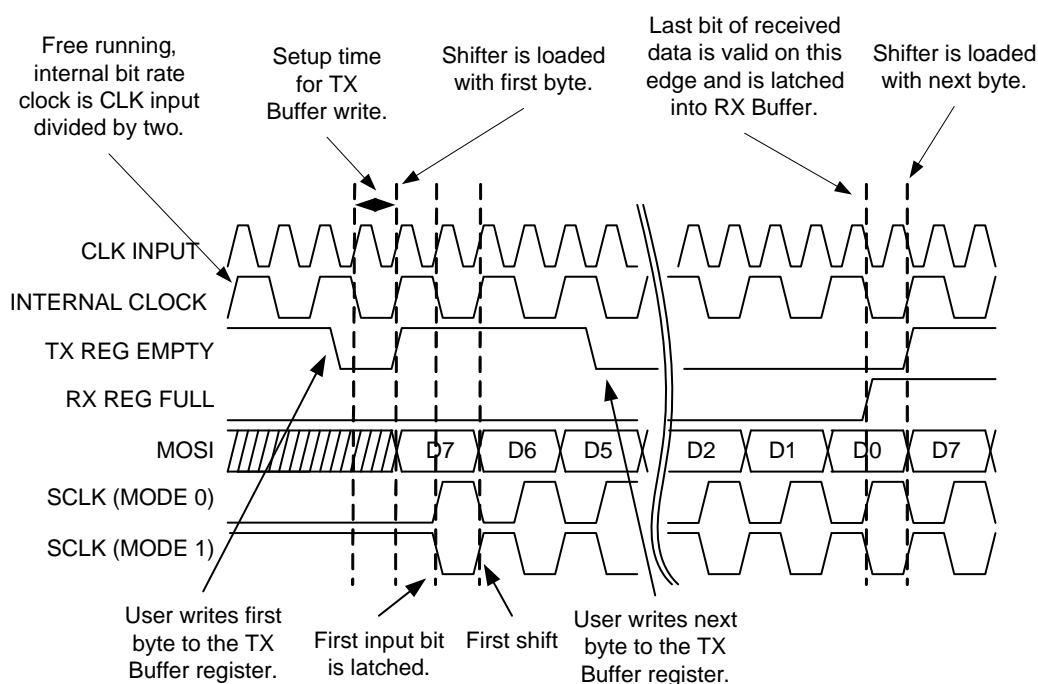
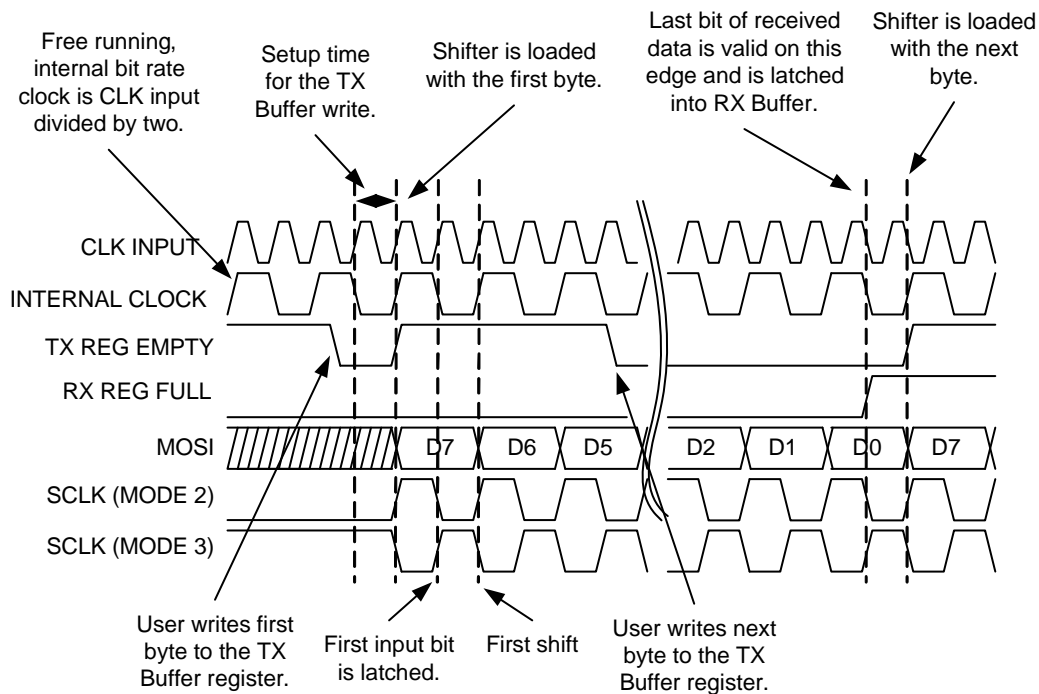

Figure 17-16. Typical SPIM Timing in Mode 0 and 1
Figure 17-17. Typical SPIM Timing in Mode 2 and 3
**Normal Operation.** Typical timing for a SPIM transfer is shown in Figure 17-16 and Figure 17-17. The user initially writes a byte to transmit when TX Reg Empty status is true. If no transmission is currently in progress, the data is loaded into the shifter and the transmission is initiated. The TX Reg Empty status is asserted again and the user is allowed to write the next byte to be transmitted to the TX Buffer register. After the last bit is output, if TX Buffer data is available with one-half clock setup time to the next clock, a new byte transmission will be initiated. A SPIM block receives a byte at the same time that it sends one. The SPI Complete or RX Reg Full can be used to determine when the input byte has been received.